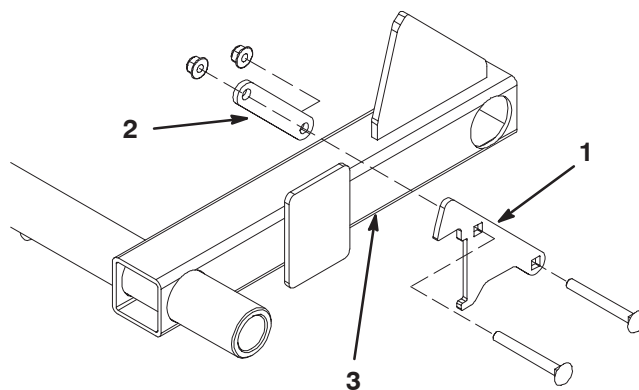

Figure 3
12. Loosely mount the extension plate to the H-frame tube with (2) new carriage bolts, bracket and (2) flange nuts. Position the components as shown in figure 3.